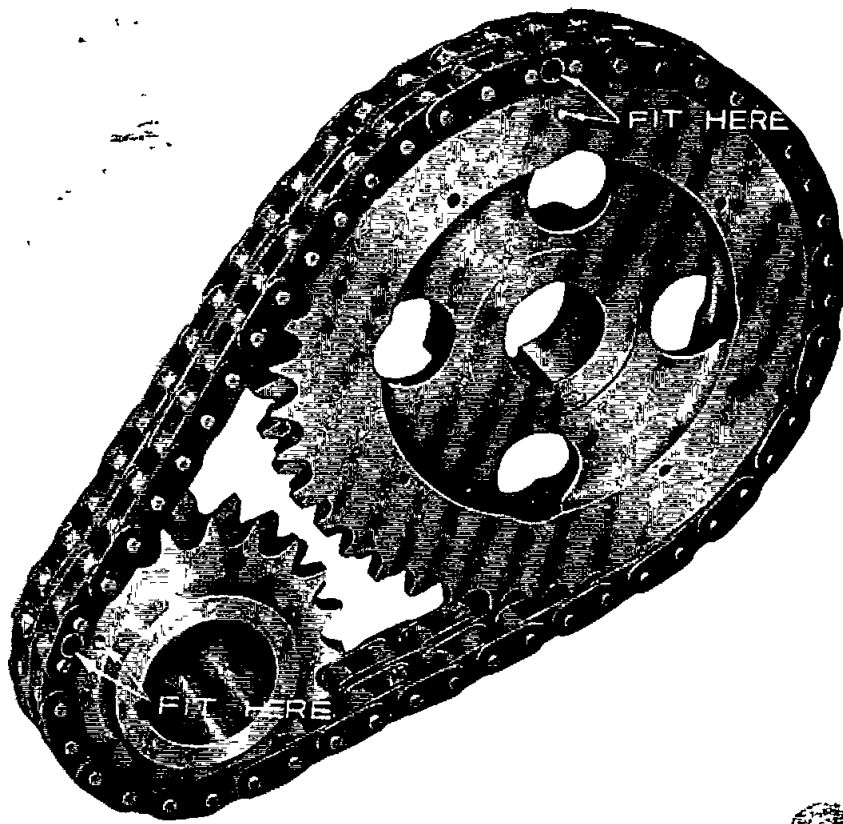

Fig. 2 Setting of Timing Gear Mark
3. Next, inserting the driving shaft of the distributor at an angle to the engine, engage the gear on its lower end with the gear on the camshaft. During this assembly place the slot of the distributor drive of the upper end of the shaft somewhat to the left as shown in Fig. 2. At this time, the smaller of the semi-circles is placed toward the front.